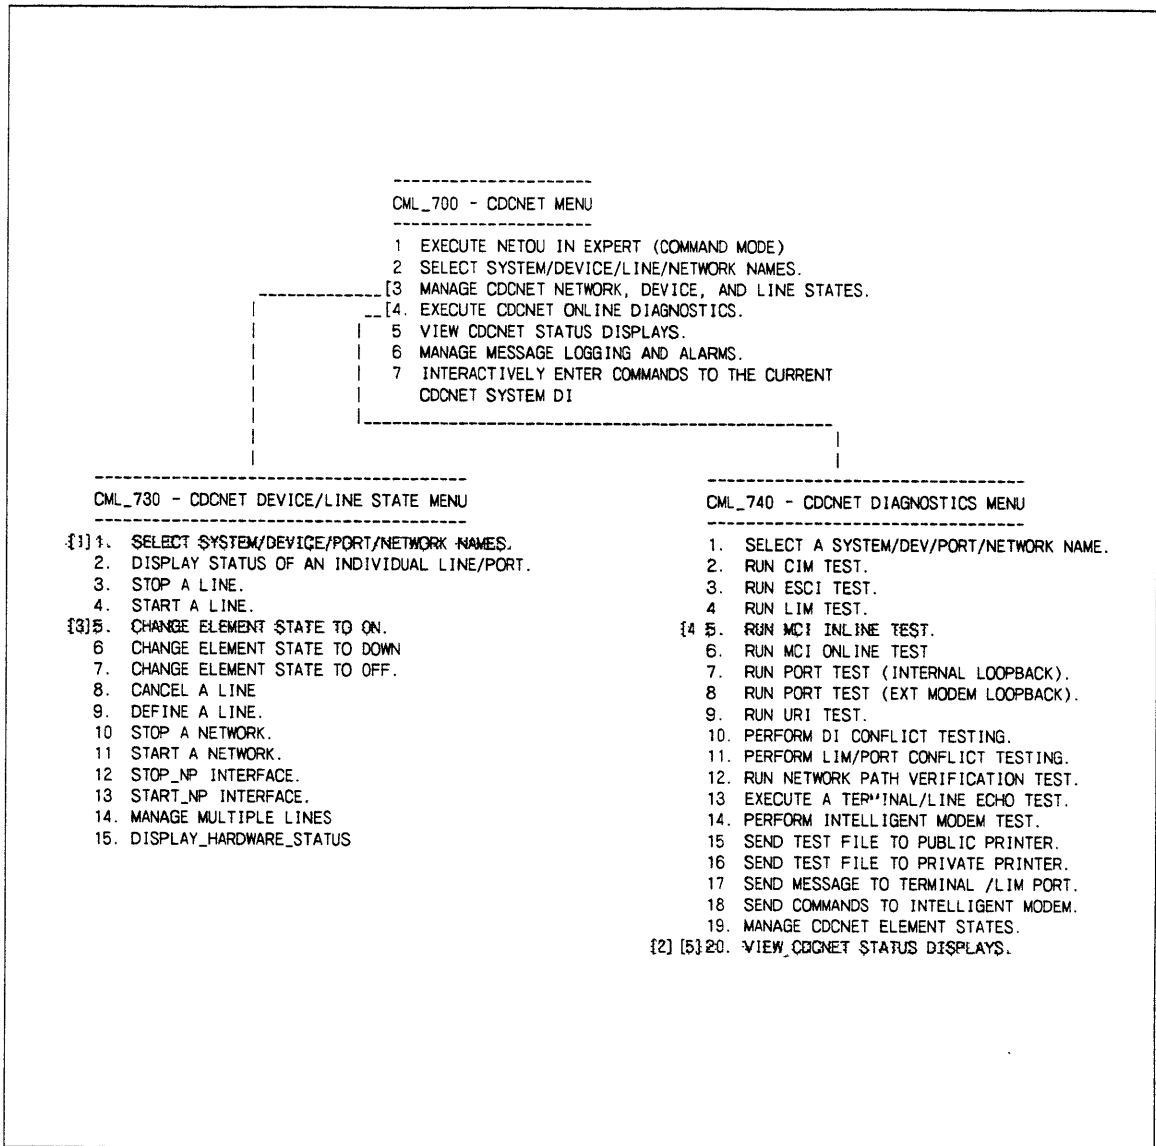

Figure 6-26. CML/VE Menus for MCI Inline Test
The following shows the CML/VE menu choices necessary to run the MCI inline test. Each menu choice is shown on figure 6-26 and described below. The purpose of this topic is to serve as a quick reference for the most frequently used menu selections. See chapter 4 for a complete description of CML/VE. Familiarize yourself with the MCI inline test notes and procedure given earlier in this topic before running the test.
1. Numbers in this column correspond to the bracketed numbers (for example, [1]) on figure 6-26.